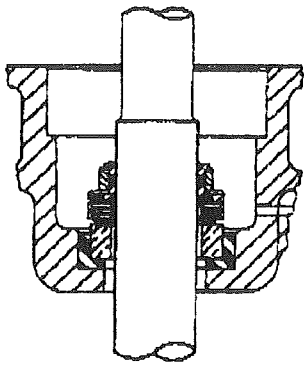

FIGURE 7
- (i) Remove 2nd impeller as in (f) above. **NOTICE:** If pump has (3) stages, repeat steps (g), (h) and (i).
3. With two screwdrivers, pry the pump adapter away from the motor. This will pull the seal off the motor shaft, Figure 7. The stationary part of the seal can now be pushed out of the adapter from the opposite side.